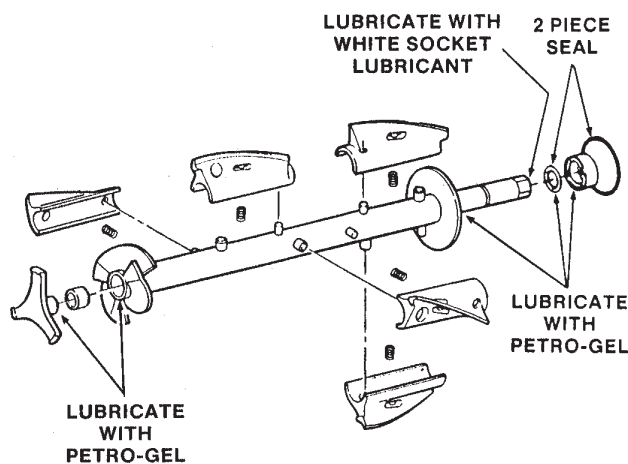

Figure 27. Exploded View of Auger
- D. Screw the springs onto the studs in plastic flights. **Springs must be screwed into the flights completely** to provide proper tension (Fig. 27).